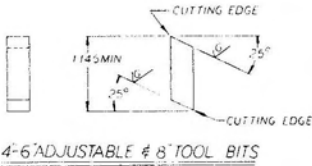

Figure 4
2. Sharpen edge(s) of tool bit to specification. See Figure 4, below.